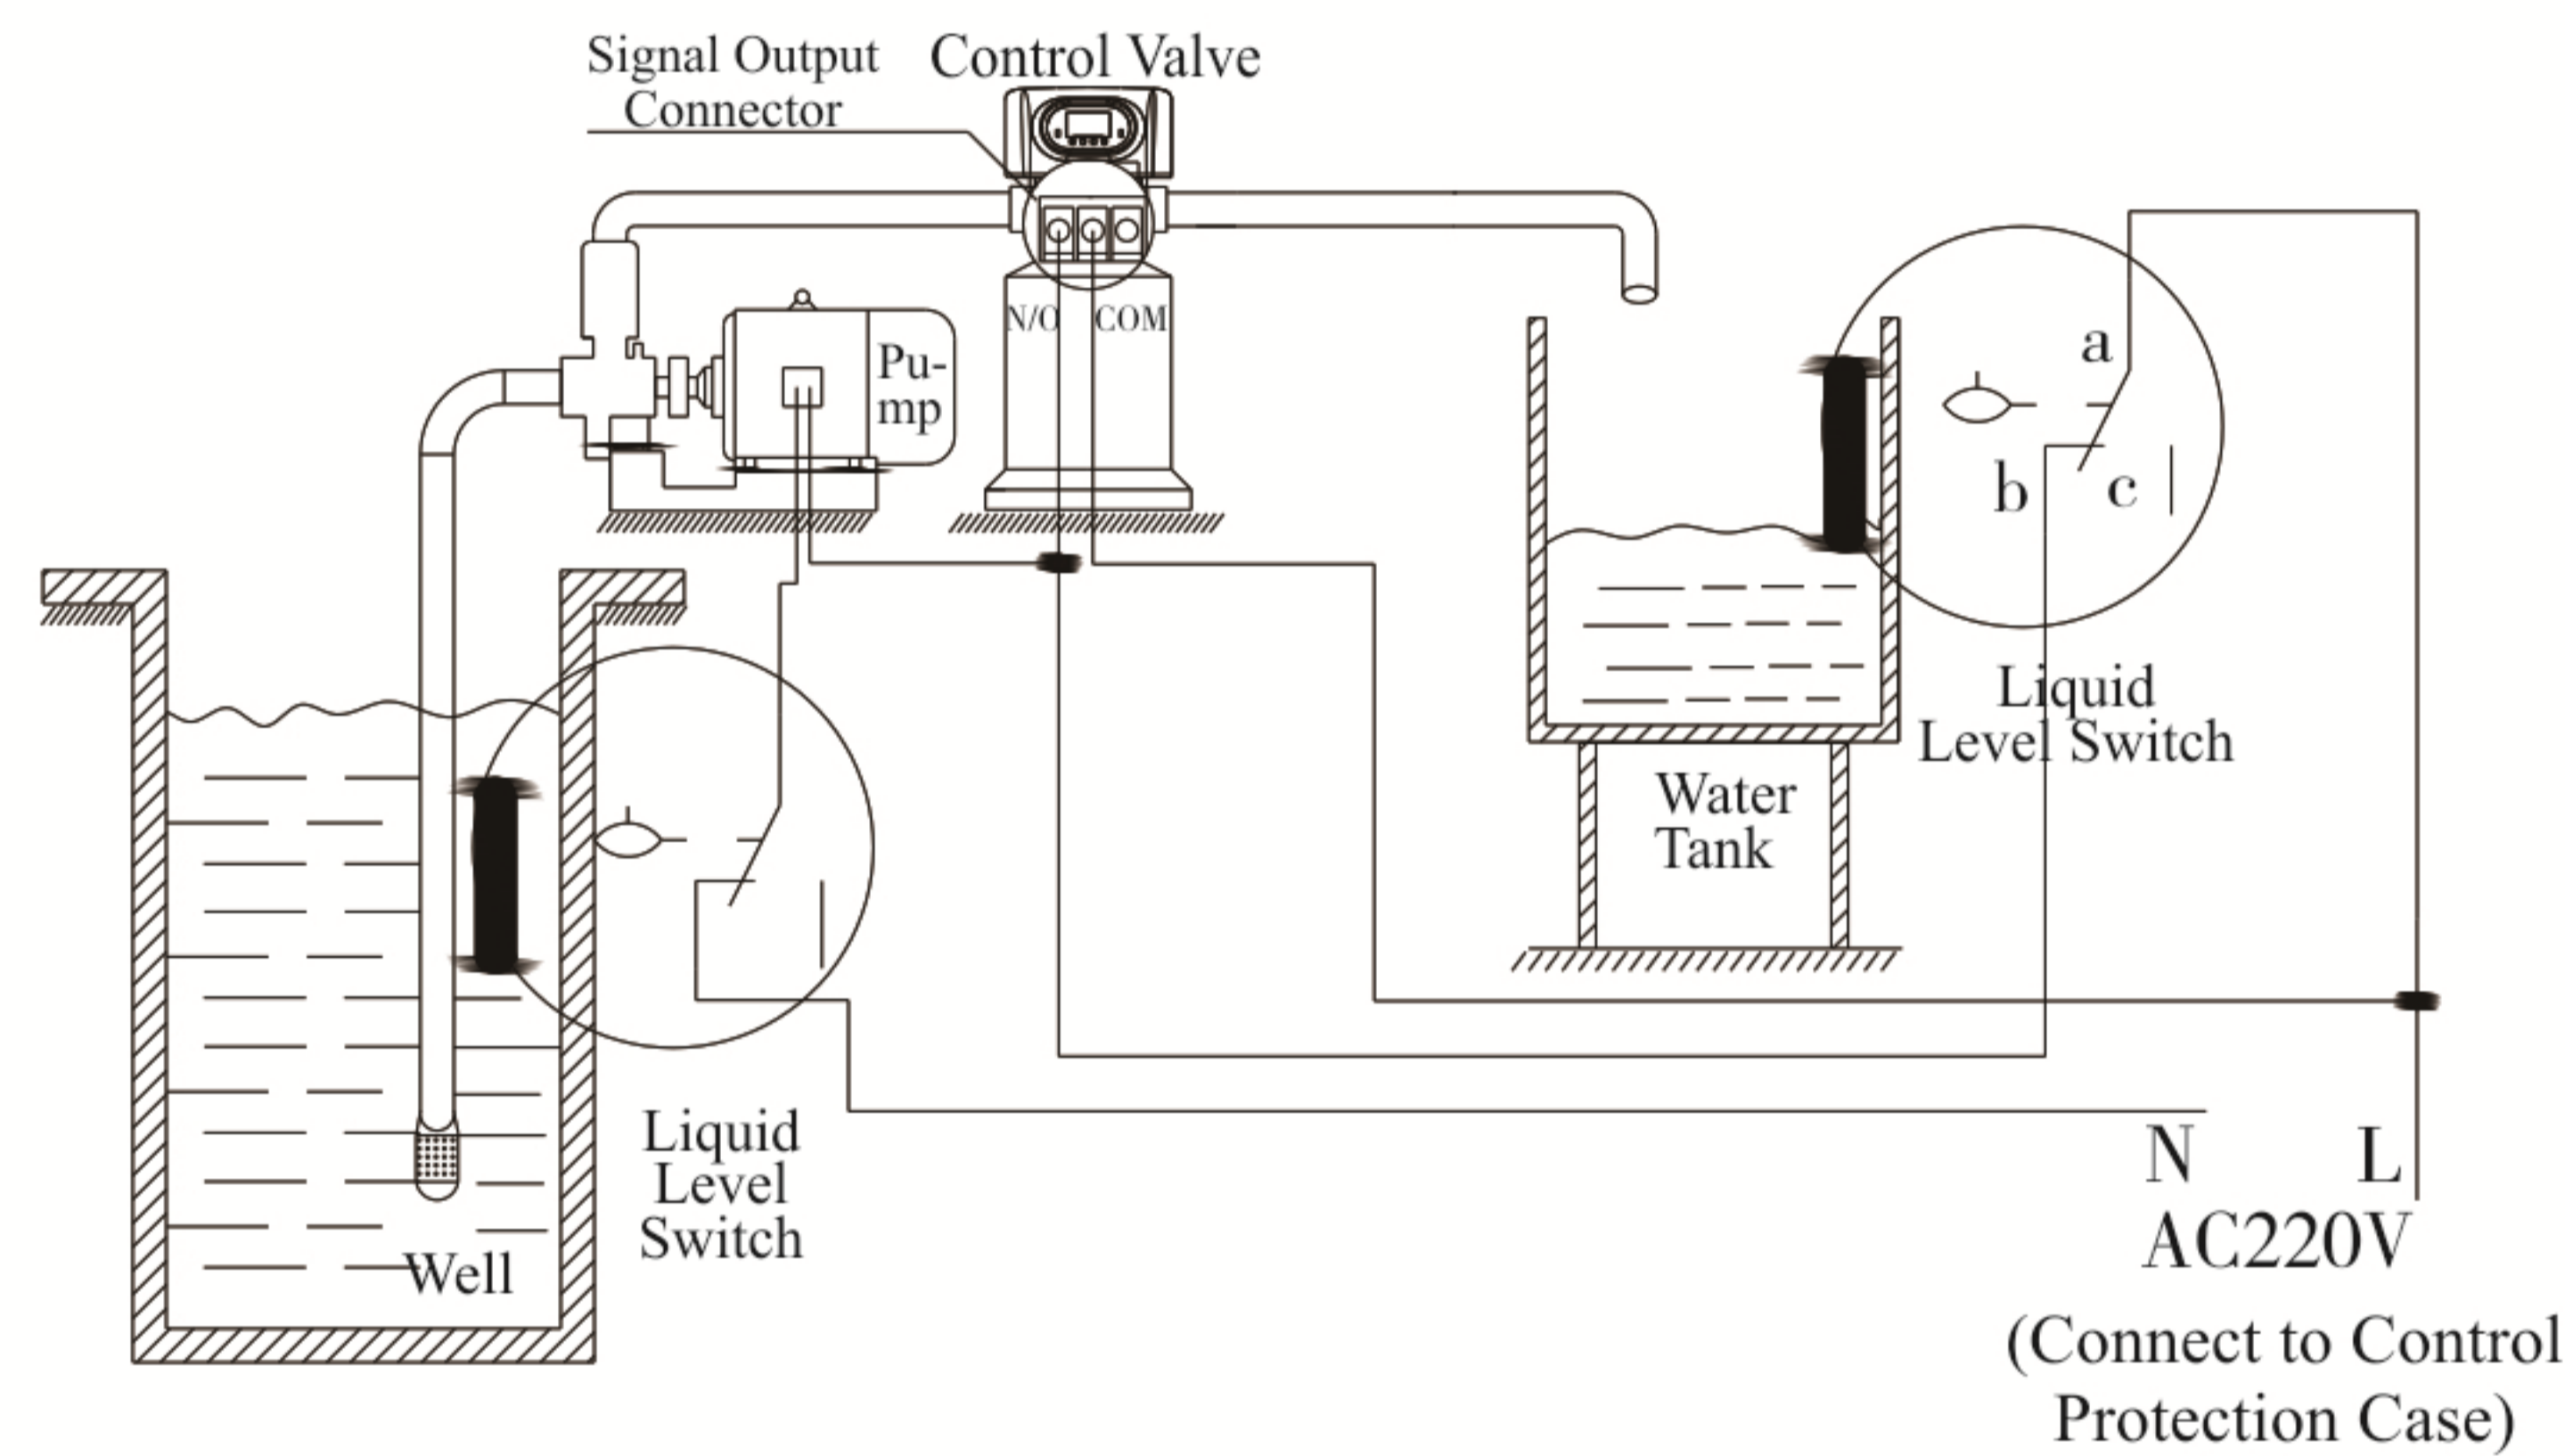

Figure 3-5 Wiring of Liquid Level Controller Controlling Inlet Pump
**Instruction:** For the system using well or middle-tank supplying water, switch of liquid level controller and valve work together to control pump turn on or turn off. The wiring refer to Figure 3-5.